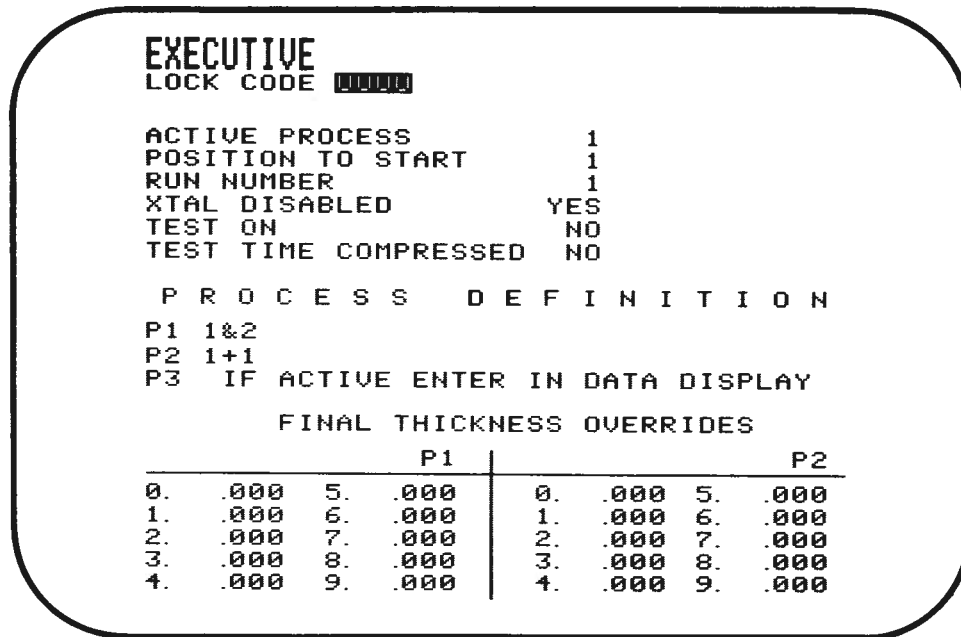

Figure 2.25 Executive Display
2.3.6 EXECUTIVE DISPLAY (Figure 2.25)